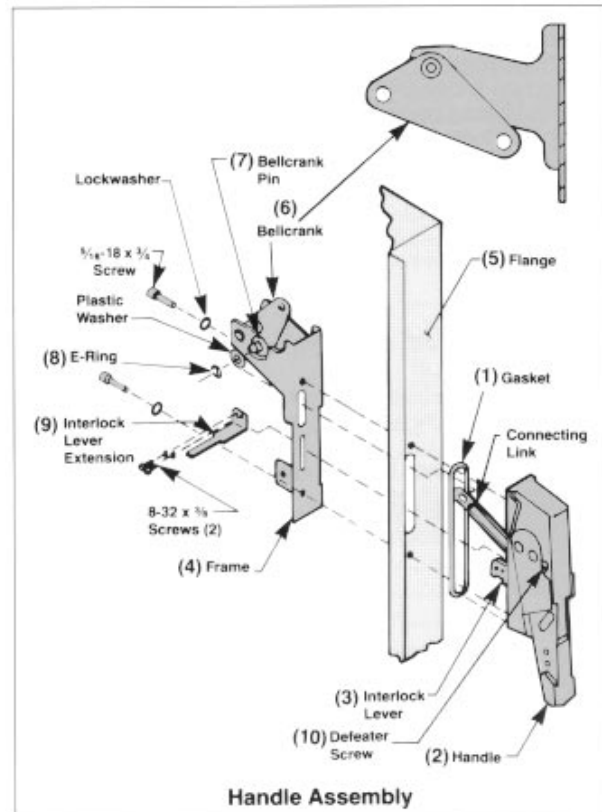

Figure 3
- Mount the frame (4) and handle assembly to the enclosure flange (5) using two 5/16-18 x 3/4 in. button head cap screws and lockwashers. Tighten cap screws from within enclosure (Figure 3).
- D. Place the plastic washer and connecting link onto the bellcrank pin (7). Secure the connection with the E-ring supplied (8) (Figure 3).
- E. Attach the interlock level extension (9) to the interlock lever using two #8-32-3/8 in. screws and #8 lockwashers. Screws mount through the threaded lever extension into the lever. Tighten to 25 in.-lb. (Figure 3).
When the enclosure door is open, the operating handle cannot be moved from the OFF to ON position without deliberately defeating the interlock mechanism. In the OFF position, the interlock can be defeated by pushing the interlock lever extension downward while moving the handle to the ON position. With the enclosure door open and the handle in the ON position, the interlock can be defeated by turning the defater screw (10) (Figure 3) on the operating handle. When the enclosure door is closed, the door latch mechanism automatically defeats the interlock.